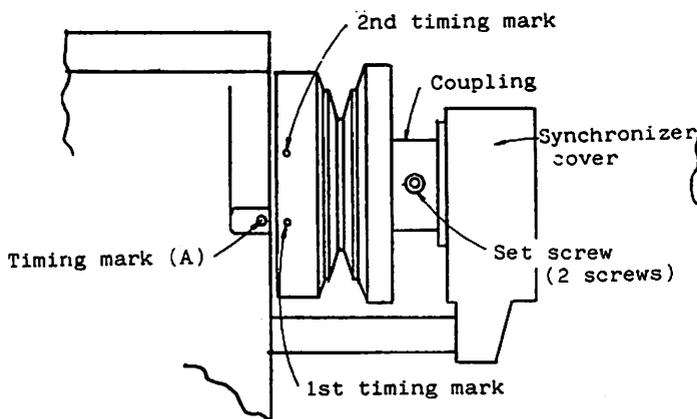
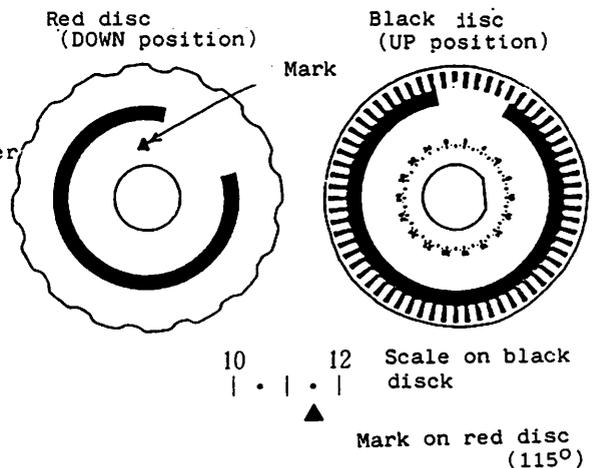

Fig. 10.17
Fig. 10.18
- (1) Remove the synchronizer cover by pulling it toward the cable side (see Fig. 10.17).
- (2) The first synchronizer disc (red) is for DOWN position detection, and the second (black) is for UP position detection.
- (3) The matching mark on the first disc (red) should be at 115° on the scale of second disc (black). If the first disc is not at 115° , turn the first disc to set to 115° (see Fig. 10.18).